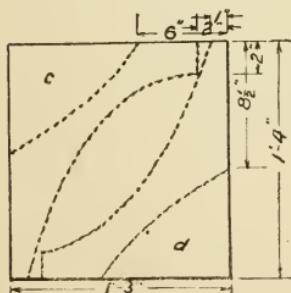

FIG. 41.—METHOD OF CUTTING OUT LEGS OF CLOTHES TREE.
3. Laying out, planing, and sawing legs. — The dotted lines of Fig. 41 show how two legs may be laid out on one piece 15" \times 16" with the least waste of lumber. The curves are not arcs of circles and so must be laid out free hand, after locating the points as indicated in Fig. 41.